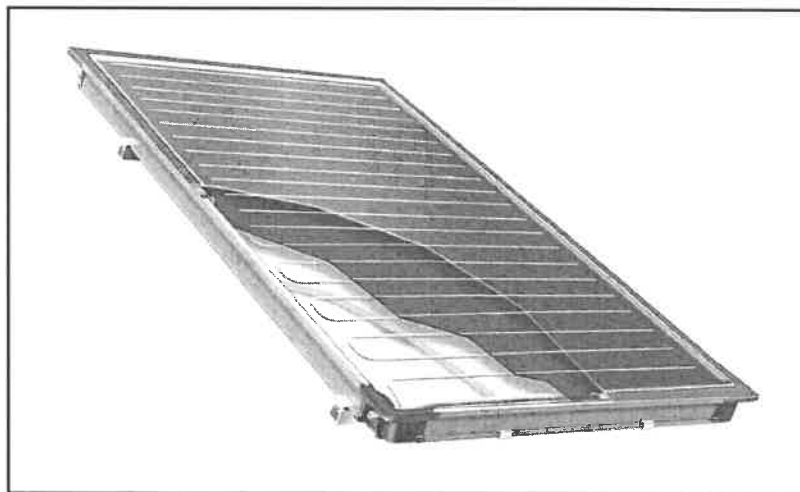

FIGURE 4.6
4.6 FIGURE 4.6 below shows a solar heating unit. (3)